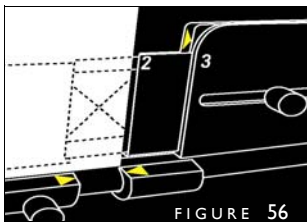

FIGURE 56
5. Bring the lever upright to unclamp your cover. Lean over the top of the Centering Guide to see the yellow arrows on the back side of the Book Thickness Rings. Slide your cover over so its right edge lines up with **the point** of the right arrow (Figure 56). Push the Lever to the left to score — you have just made your rear spine edge score.